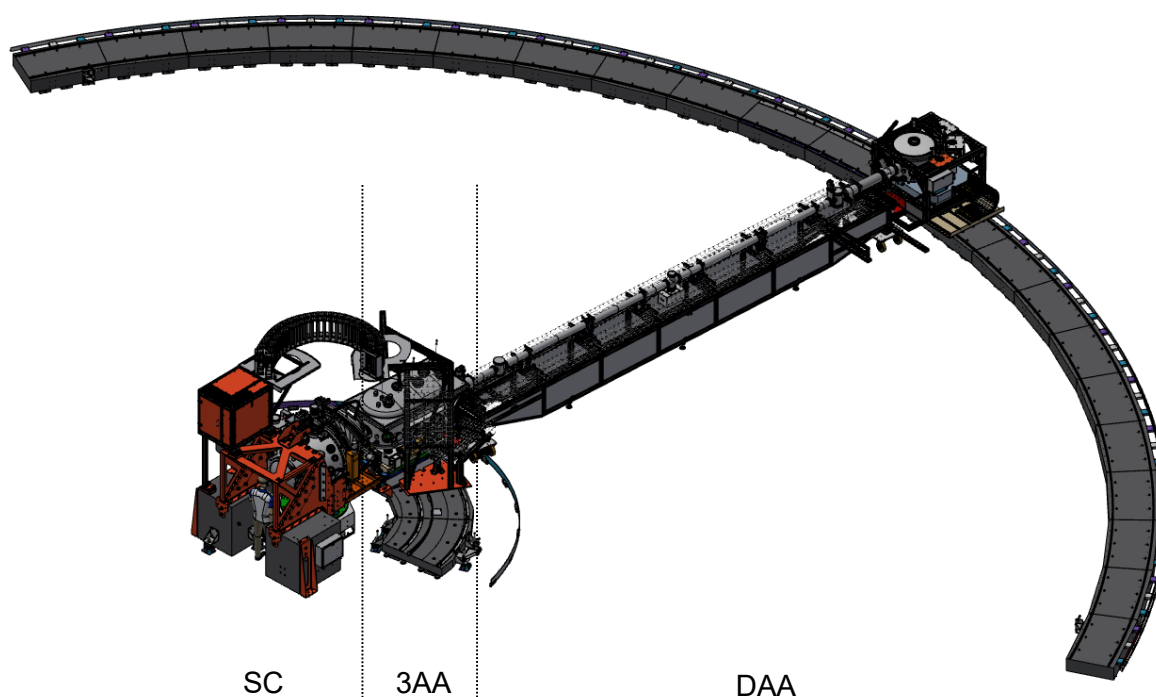

Figure 4: Design overview of the spectrometer arm system
Figure 4 shows the SIX end-station design overview. The SIX end-station is subdivided into the sample chamber unit (SC) and the spectrometer arm system (SAS). The SAS consists of the 3m arm and optics tank assembly (3AA) and the detector arm and stand assembly (DAA). The motion control system is not included in the scope of delivery, i.e. the SIX end station delivered from Bestec GmbH is an incomplete machine according to the European machine directive 2006/42/EG.